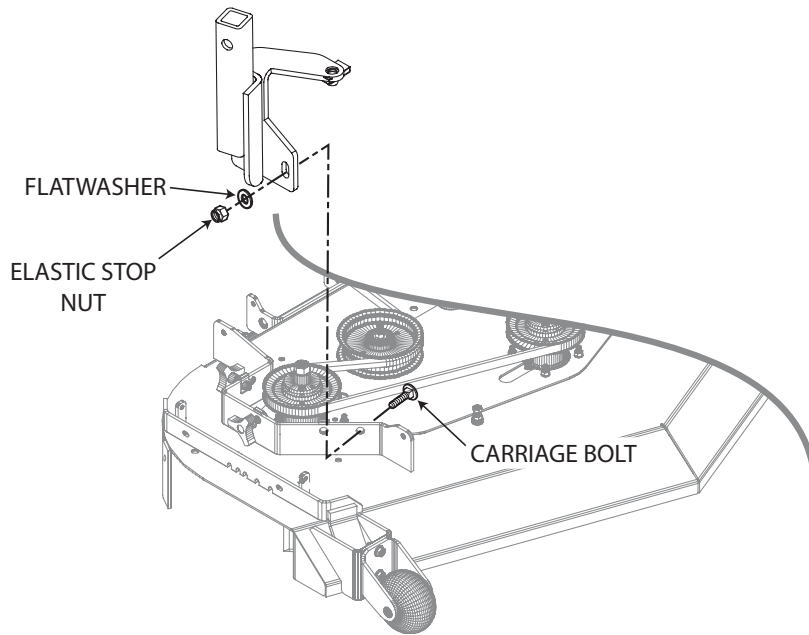

FIGURE 3-2
5. Install the blower mounting bracket to the deck using carriage bolts (p/n 04003-11), lockwashers, and nuts. Do not fully tighten the hardware at this time. See Figure 3-2, Page 4.